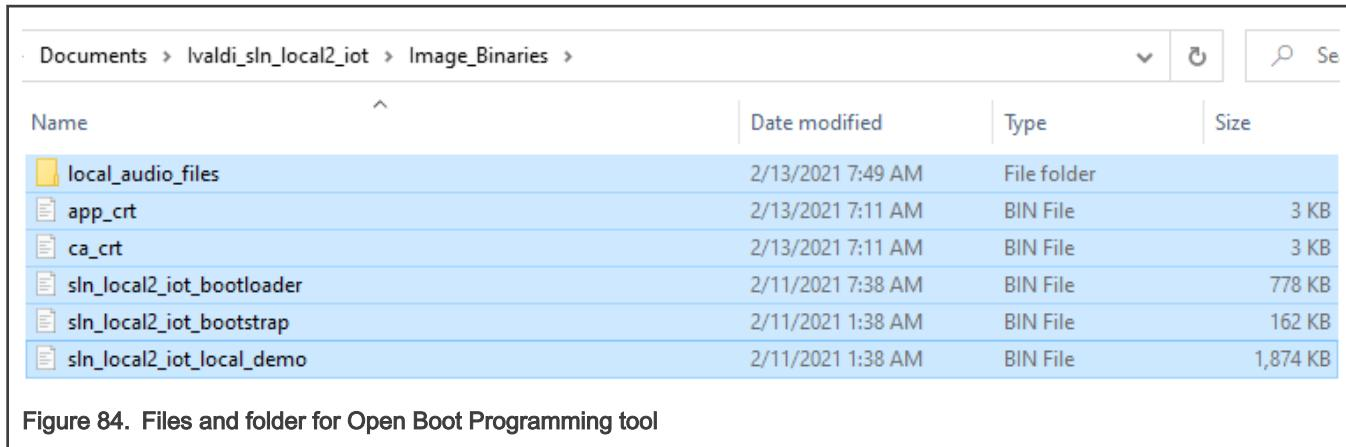

Figure 84. Files and folder for Open Boot Programming tool
- The files and folders shown in Figure 84 should be in the “**Image_Binaries**” folder in the Ivaldi root.